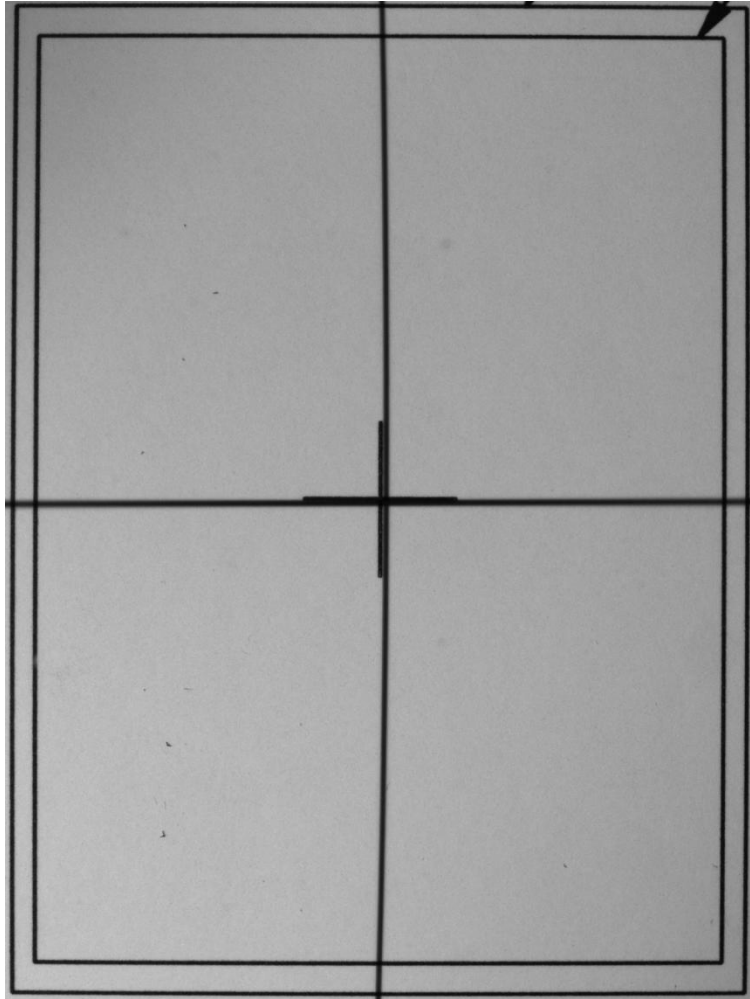

Figure 2.10 Alignment Target after Alignment
2. Adjust the camera iris such that the image is not too bright and not too dark. If the sample target image is not in focus, adjust the camera lens focus to get a sharp image. Now jog the sample stage up/down such that the middle rectangle is just inside the field of view as shown in **Figure 2.10**. The iris and focus may need to be adjusted again after this step. Lock them down using the set screws on the lens after they have been set.